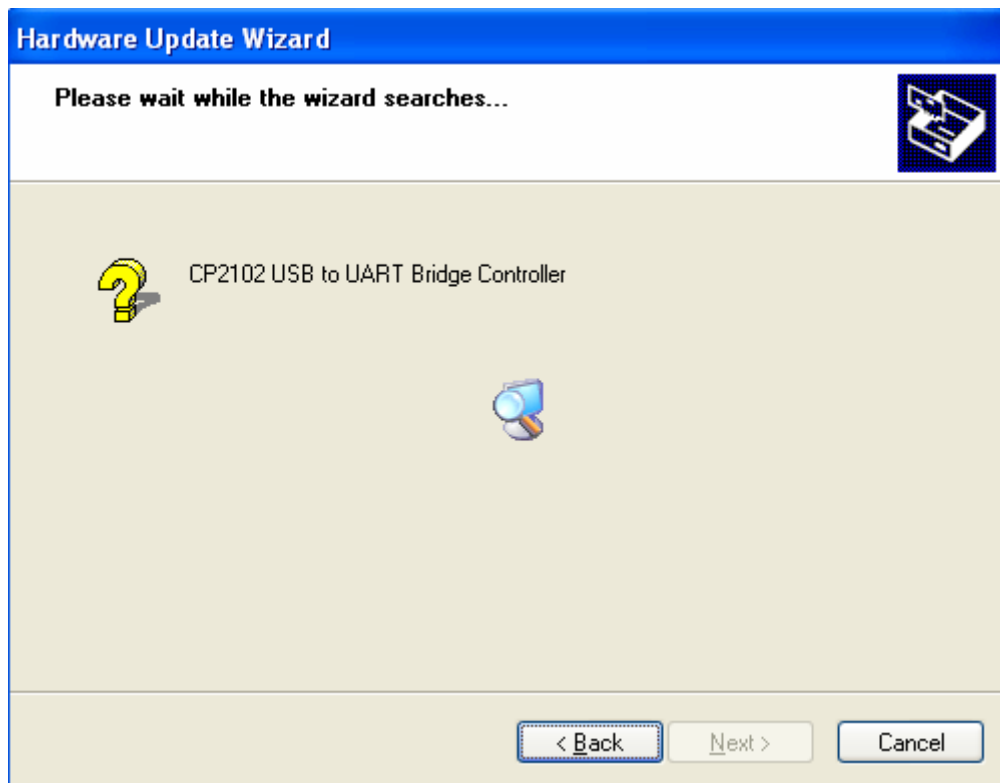

Figure 5
(5) .The system is searching for the driver of CP2102 USB, as shown in figure 5.